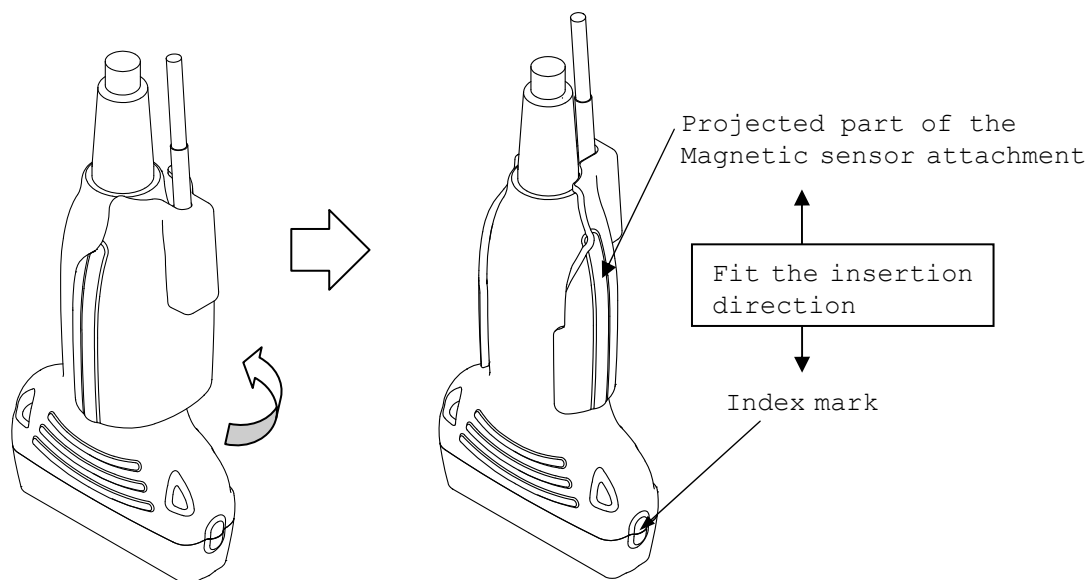

Fig. 6 How to attach the Magnetic sensor attachment
- b) Place the magnetic sensor attachment on the probe as shown in Fig. 6. Fit the projected part of the magnetic sensor attachment in the index mark of the probe.